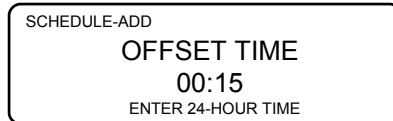

Figure 3-54. Offset Time Screen
- d. On the OFFSET TIME screen, use numeric keys to enter time offset of the transmission schedule relative to midnight, UTC (0000 Zulu), in hours and minutes (24-hour format) and press [ENT]. See Figure 3-54.